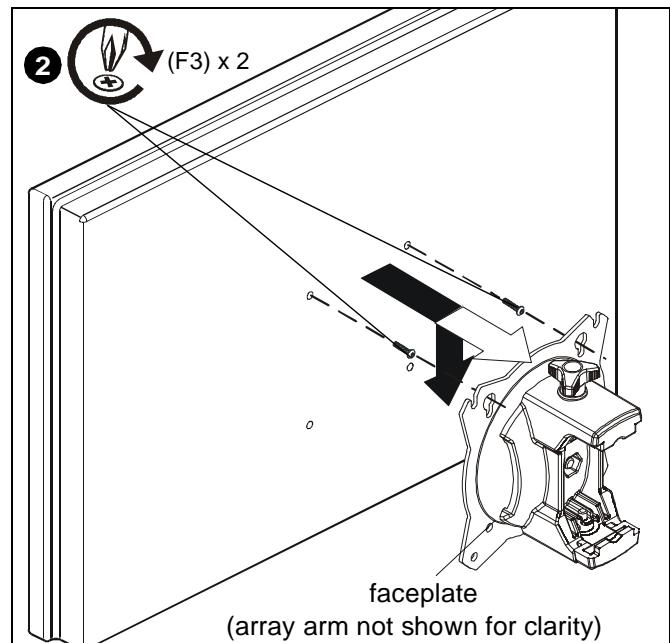

Figure 7
2. Using Phillips screwdriver, carefully install two M4 x 12mm Phillips pan machine screws (F3) into the *upper* mounting holes on the display. Thread screws completely into display, then back out 3 complete turns. (See Figure 7)
3. Pick up and align display so that screws (F3) (installed on the back of the display in the previous step) fit into the mounting holes on the faceplate. Lower the display firmly into place. (See Figure 7)